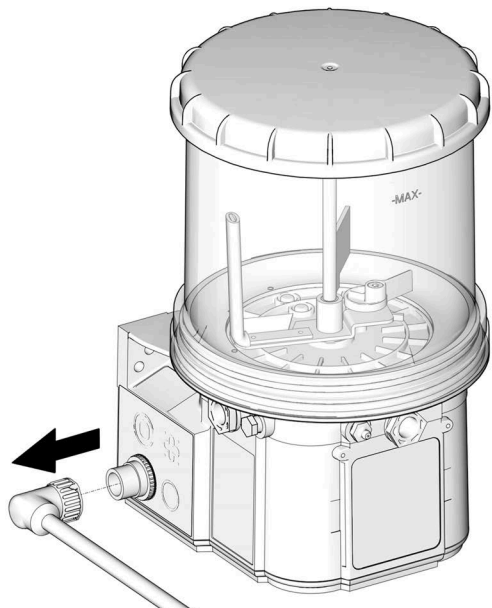

FIG. 15
**NOTE:** If battery disconnect is not available, remove the power cord (FIG. 15).